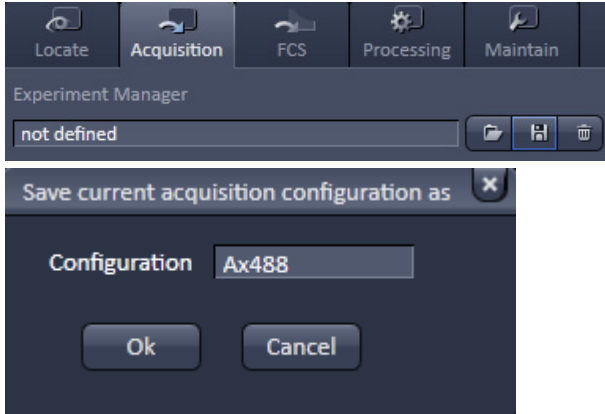

Fig. 29 Saving Configurations via the experiment Manager
- For storing a new configuration click  of the **Experiment Manager** of the Acquisition **tab** and enter a desired name in the first line of the list box (Fig. 29), then click **Ok** to store the configuration.